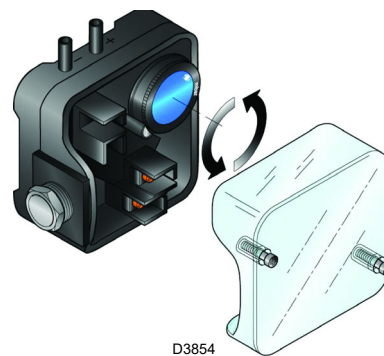

Fig. 27
- Adjust the air pressure switch (Fig. 27) to the start of the scale.
Adjust the air pressure switch after performing all other burner adjustments with the air pressure switch set to the start of the scale (Fig. 27).